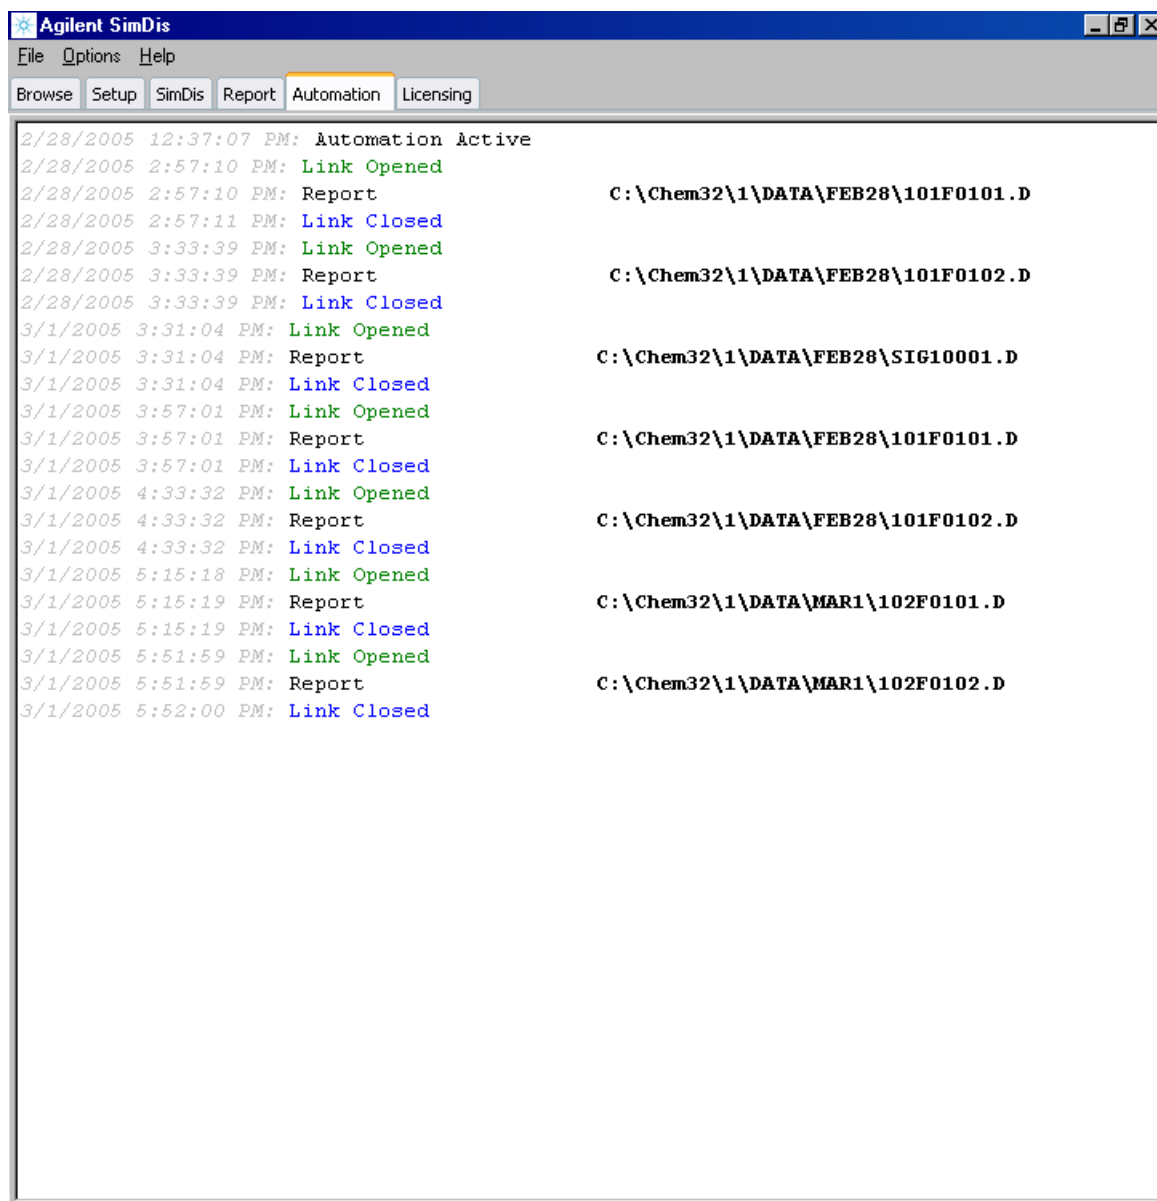

Figure 46 One Instrument configured and **Setup / Use SimDis Defaults** selected
- Figure 46 is an example of a single-Instrument system where **Use SimDis Defaults** has been selected